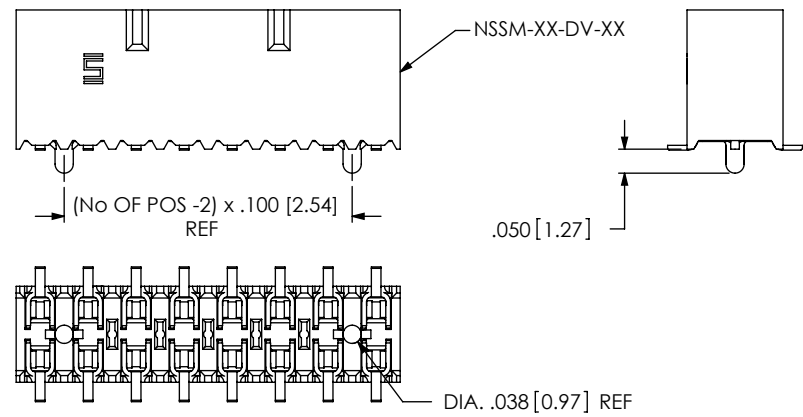

FIGURE 8
- TR: TAPE & REEL (SEE FIG 8, SHT 2-29 POSITIONS MAX)